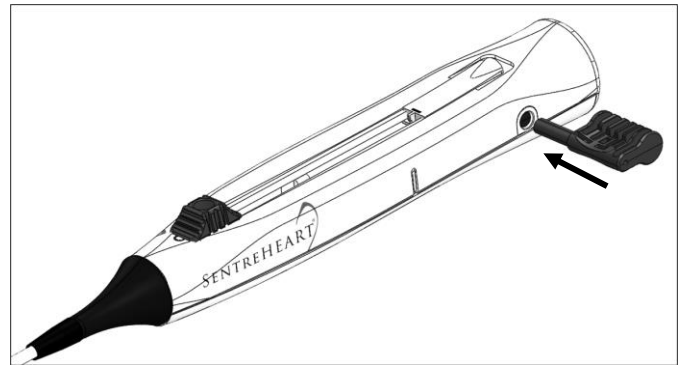
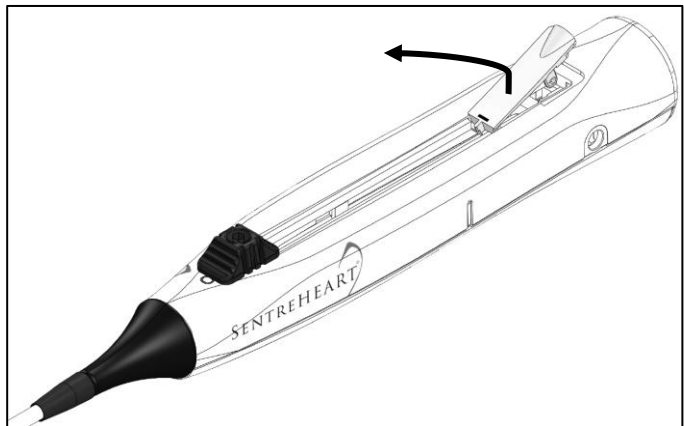
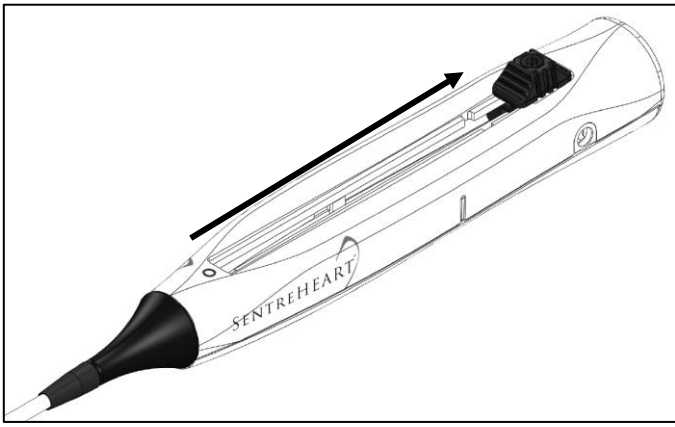

Figure 6 Suture Release Tab inserted into Snare Release Actuator
Figure 7 Lift and Remove Restrictor Plate
Figure 8 Completely Retract Snare Actuator Slide
- If device cannot be freed from anatomical constraints, grasp the Suture Release Tab and fully insert it into the Snare Release Actuator opening on the side of the handle, as shown in Figure 6, to release the snare loop. Continue to hold the tip against tissue, remove the restrictor plate as shown in Figure 7. Finally, retract the snare actuator slide completely proximal as shown in Figure 8.
NOTE: Ensure the restrictor plate has been fully removed (refer to Figure 7). If necessary, re-insert suture release tab into the snare release actuator.